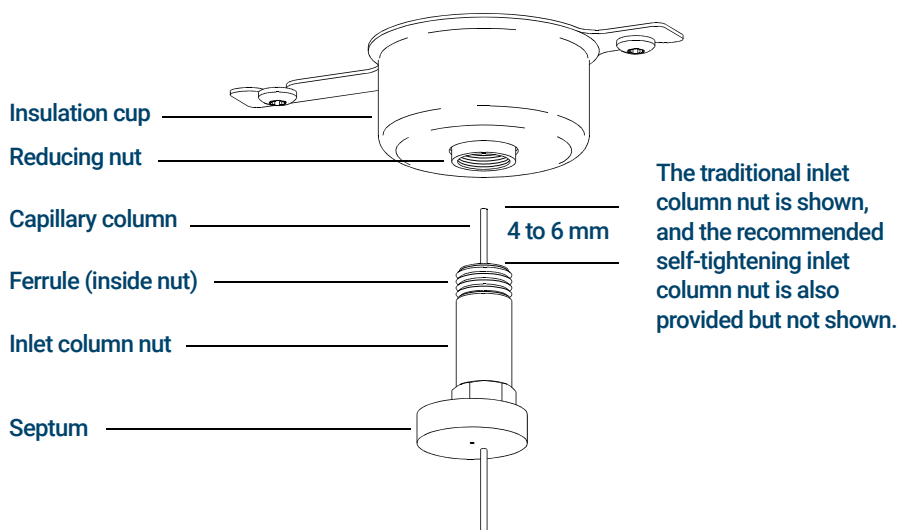

Figure 19. Installing a capillary column for a split/splitless inlet
- 7 Position the septum under the column nut so that the column extends 4 to 6 mm past the end of the ferrule. (See **Figure 19** on page 78.)
For the standard column nut, (shown in Figure 19) tighten the nut an additional 1/4 to 1/2 turn. The column should not slide with a gentle tug.